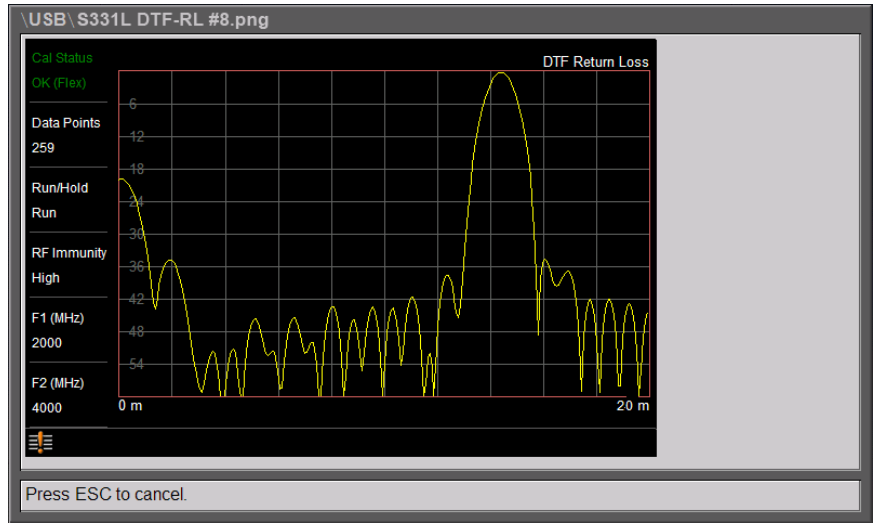

Figure 10-11. Preview of a Recalled Screen Shot
1. Press the **File (7)** key to display the File menu.
6. A preview screen displaying the selected screen shot is illustrated in Figure 10-11. Press **ESC** to return to the File Recall menu.